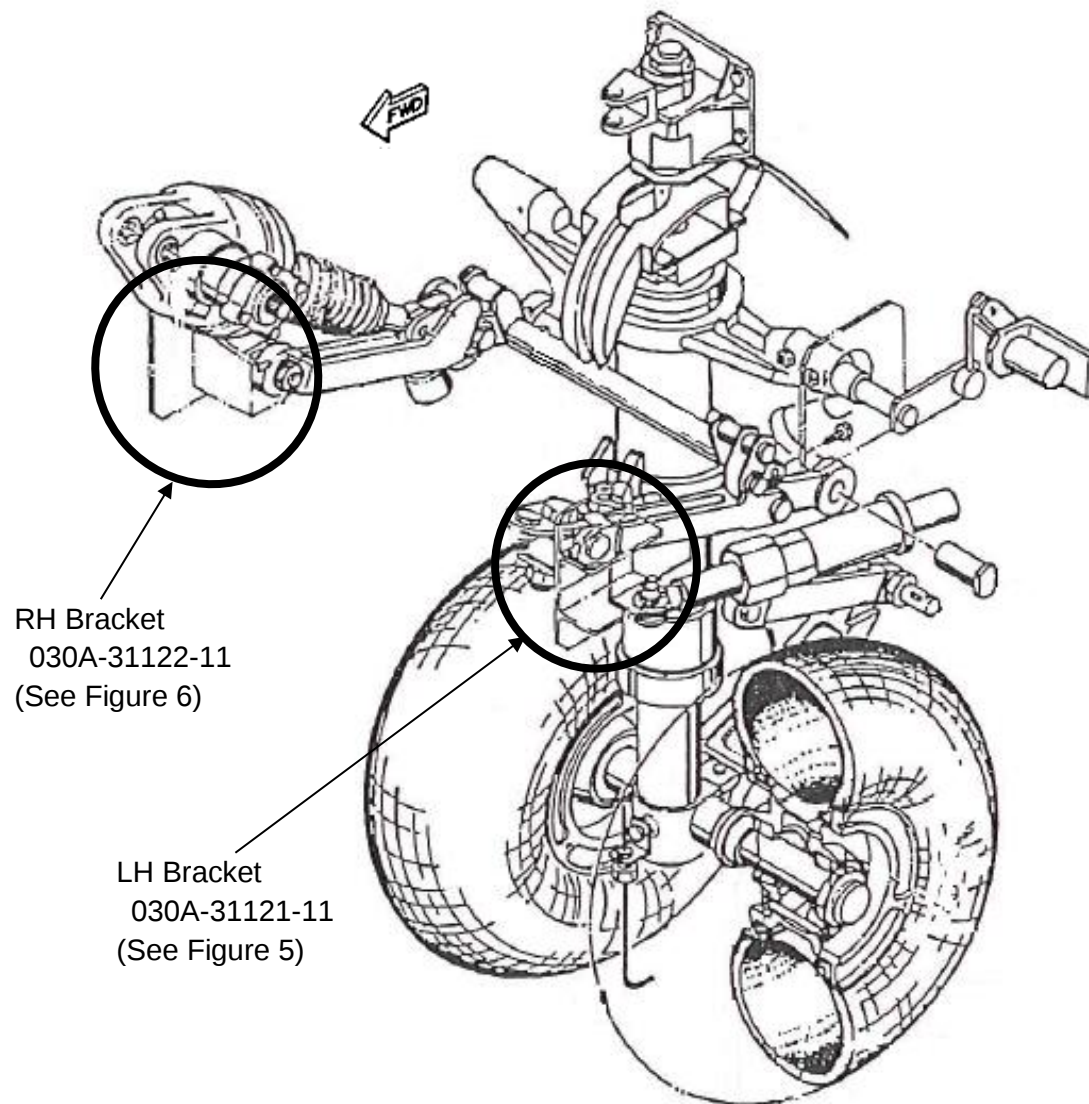

Figure 4: Drag Strut to Fuselage Bracket Location
- (1) Confirm the part number of LH NLG Drag Strut to Fuselage Bracket. If the part number is 030A-31121, perform Service Bulletin No. 046/32-005.
- (2) Visually inspect LH and RH NLG Drag Strut to Fuselage Brackets (030A-31121-11 and 030A-31122-11) for cracks in the area shown in Figure 4, 5 and 6.